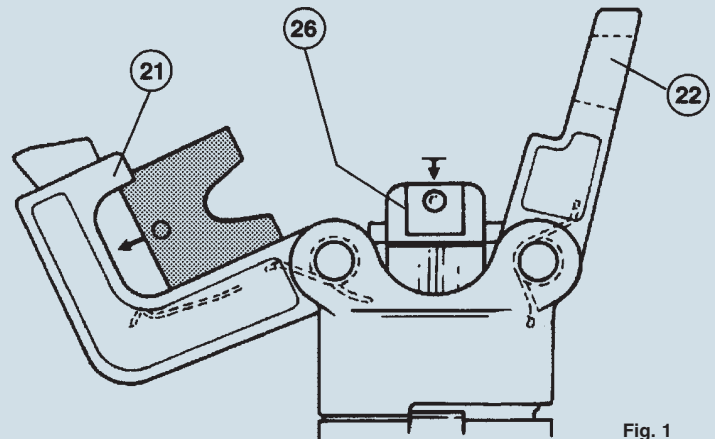

Fig. 1
**"GO"** - Insert the end of the gauge as shown (Fig. 1).
With reference to Figures 1 and 2, select a pair of matrixes suitable to the type of contact and insert them in the housings: one in the matrix support (21), the other one in the matrix pusher support (26). (NB: the two matrixes of each pair are the same). Insert the contact by resting it in the locator with the tip forward, then close the head. The contact crimp housing will be accessible in the mouth between the matrixes.